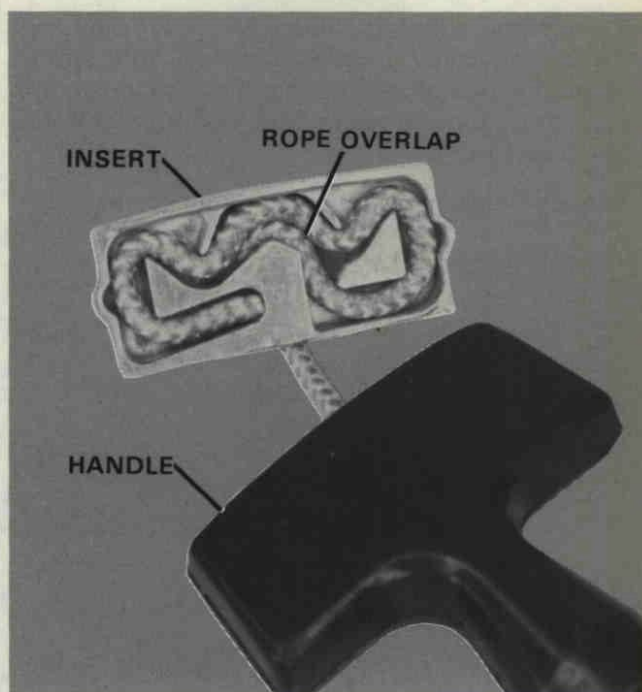

Figure 6. Placing Starter Rope in Insert.
- D. Feed rope through handle and into insert. Fold end over, so that there is an overlap of rope at midpoint of retainer. Figure 6.
3. Place upper bracket on spool shaft, seat and install with two (2) screws.